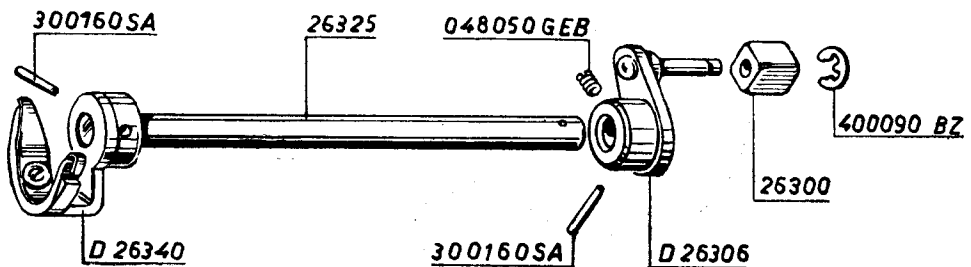
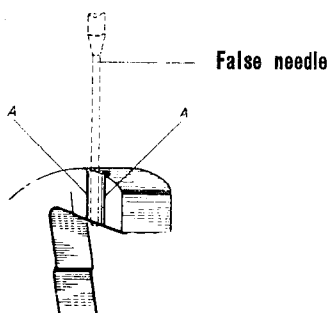

Fig. 30
Fig. 33
In the BF and BU Nova and Mira NECCHI machines, the oscillating shaft crank No. D 26306 is pinned to the carrier shaft No. 26325 (Fig. 30). In these machines, therefore, the angular position of the shuttle carrier at one end of the carrier shaft in relation to the oscillating shaft crank at the other end of this shaft remains always the same.
1. Place and pin the shuttle carrier No. D 26340 (Fig. 30) to one end (the one closest to the circumferential lines) of the carrier shaft No. 26325, then assemble with machine. Place the oscillating shaft
crank No. D 26306 on the other end of carrier shaft in such a position that shuttle carrier and oscillating shaft crank include an angle of about 90 degrees (as indicated in Fig. 31). This angular position is approximately correct but it must be checked (see item 2). Now, tighten firmly the set screw No. 048050 GEB in the oscillating crank shaft (Fig. 30). Assemble the machine completely.
Turn the balance wheel slowly by hand until the needle is raised about  $\frac{3}{32}$ " above its lowest position. At this moment, the point of the shuttle should be exactly in the center of the rising needle (Fig. 32). If this requirement is not met, loosen the set screw No. 048050 GEB in the oscillating crank shaft (Fig. 30) and turn the carrier shaft No. 26325 in the required direction until the point of the shuttle has reached the center of the needle which has remained stationary. Tighten firmly the set screw No. 048050 GEB.
Insert the gauge No. AC 4/75 as explained in the paragraph: «Timing of shuttle and needle bar in the BF Nova and Mira». Bring the needle bar to its lowest position. In this position, the false needle, if correctly adjusted, will lie between the two timing lines «A» (Fig. 33). If the needle does not lie between the two timing lines «A», loosen the screw No. 048050 GEB (Fig. 30). Now, without moving the balance wheel, turn the carrier shaft by hand in the required direction until the false needle comes to lie between the two lines «A». Tighten the screw No. 048050 GEB firmly and remove the gauge.